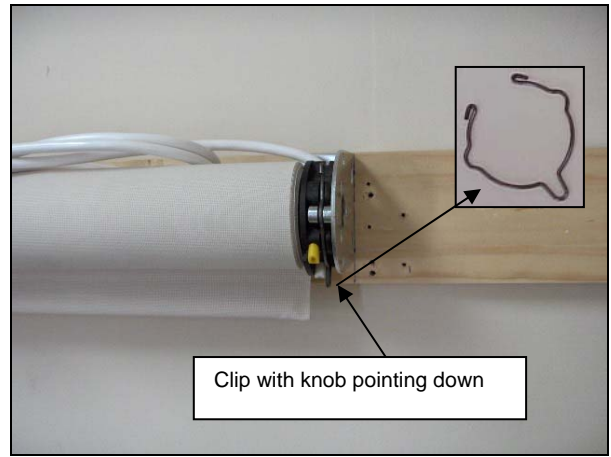

Figure 14 Motor in Bracket with Motor Retaining Clip in Place
Figure 10 shows a detail of a motor pin and the machine screw used to hold it to the bracket. The groove cut into the side of the pin holds the motor retaining clip (see Figure 2 and Figure 14). The base of the pin is flat, and the top is rounded to help ease the installation of the motor into the bracket assembly.
- **Important! Follow This Step!** The motor will remain in the brackets, but to ensure that it does not slip out of the installation, attach the motor retaining clip into the groove on the pins and motor. The clip should snap into position when it has been properly inserted into the groove on both pins. See Figure 14.